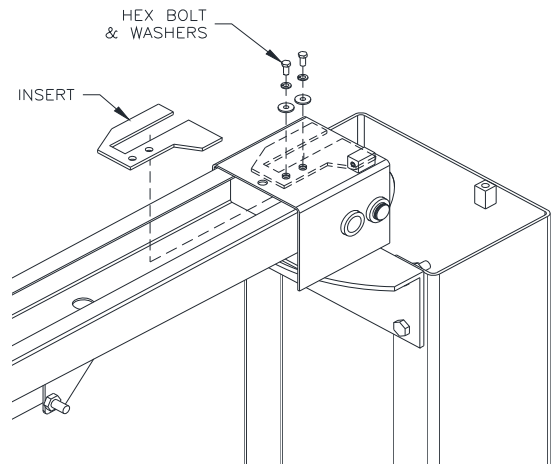

Fig 13 – Cable Trapping
28) Place Cable Trap Plate inside Overhead and slide into end of Overhead. Bolt plate to Overhead end using (2 Sets) M6 bolt, flat washer, and lock washer as shown in **Fig 13**. Repeat for both sides.